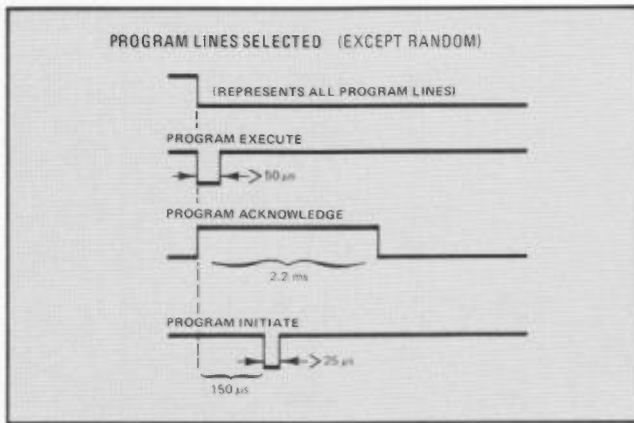

FIGURE 14
- PROGRAM INITIATE may be issued 150 μs after PROGRAM EXECUTE without waiting for PROGRAM ACKNOWLEDGE to drop low. Exception: when FILTER "IN" was used and is being switched "OUT" or in the RANDOM mode. Refer to Figure 14 for an example.